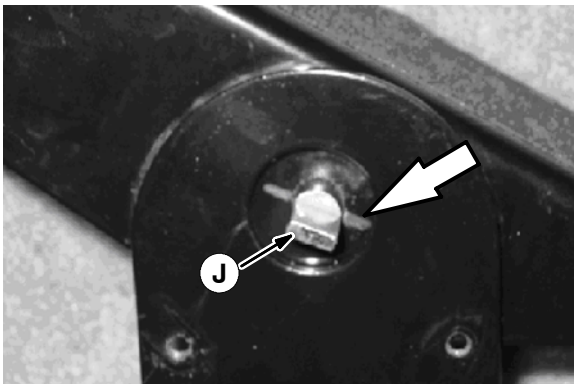

FIG. 6
6. Mark the position of the shaft tang (J) on the side of the pedal as shown. Refer to Fig. 6.
11. Align the tang of the upper shaft with the position marked previously (Refer to Fig. 6) and align the shaft with the remaining holes (right side) in the pedal and base support.
13. Check to ensure the tang is still aligned with the mark. This is important for forward/reverse drive calibration. Refer to Fig. 6.